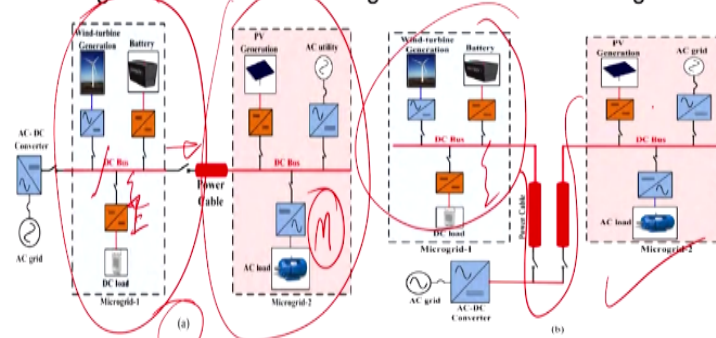

Fig.2 Radial architecture of a multi DC microgrid system, (a) series configuration and (b) parallel configuration.
- The series radial architecture may have some stability issues during islanding modes. These two configurations are shown in Fig.2.